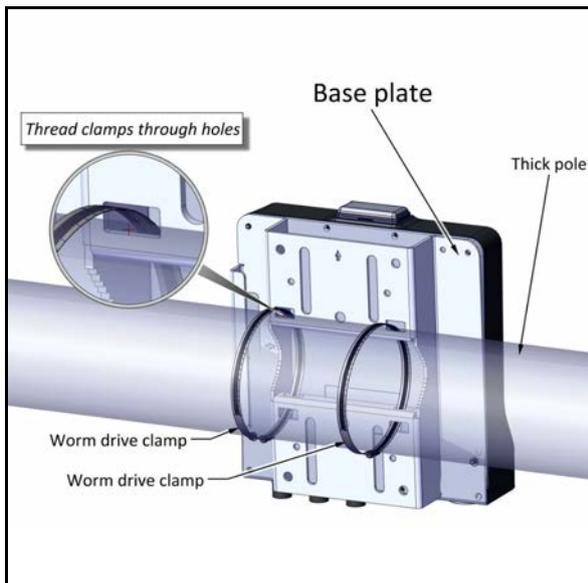
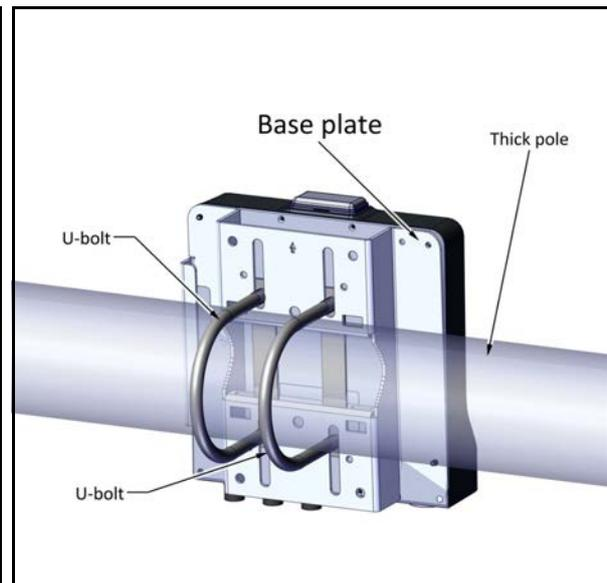

Figure 1-26: Using metal bands for a large pole
Figure 1-27: Using U-bolts for a large pole
- Diameter larger than 3: Use metal bands (not supplied), threaded through the holes as shown in Figure 1-26, or U-bolts (not supplied), fastened using the holes as shown in Figure 1-27: